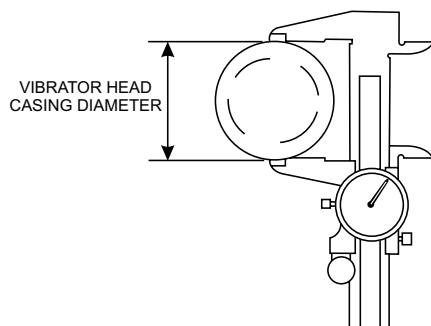

Figure 8. Vibrator Head Diameter
- Periodically measure the outside diameter (Figure 8) of the vibrator head casing.